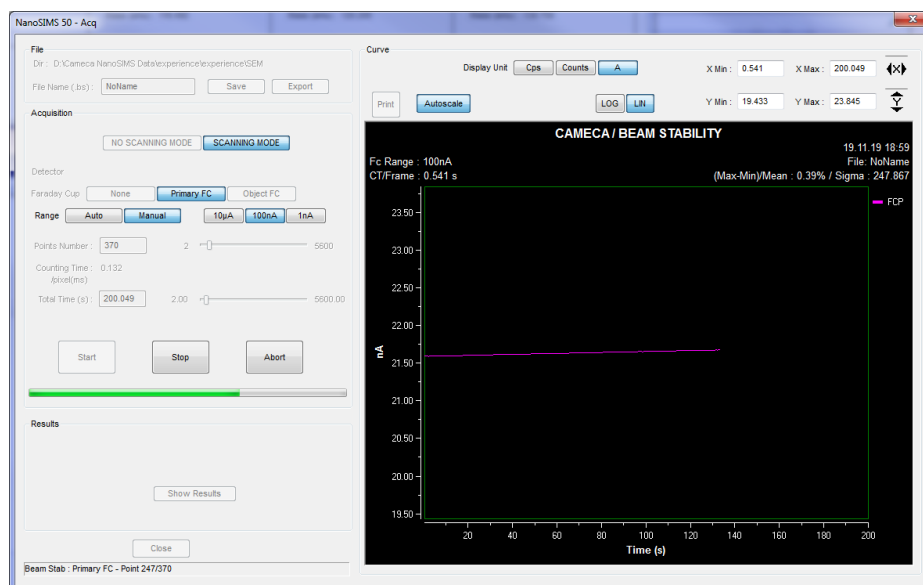

Figure 146: Beam Stability acquisition window
- Open the "Beam Stability" window (Figure 146).